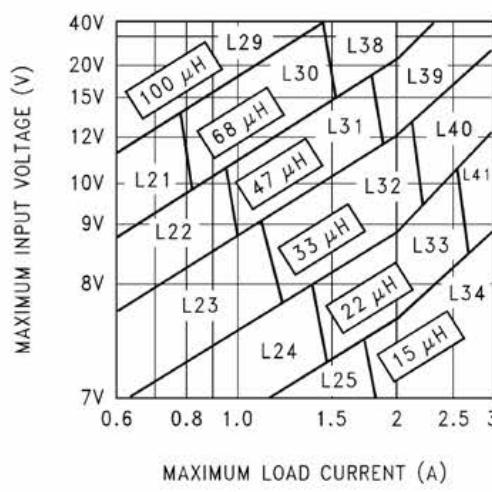
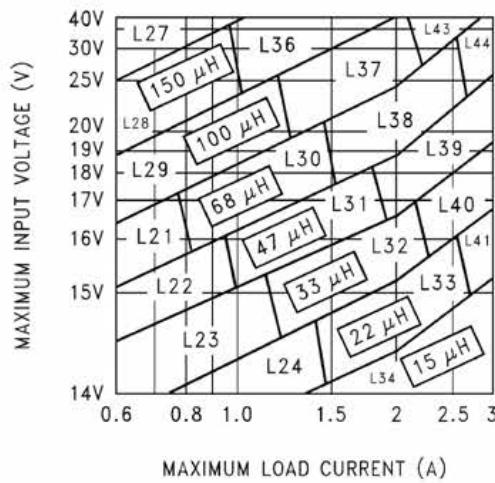

Figure 22. LM2596-5.0
Figure 23. LM2596-12
1. Inductor Selection (L1) A. Select the correct inductor value selection guide from Figures Figure 21, Figure 22, or Figure 23. (Output voltages of 3.3V, 5V, or 12V respectively.) For all other voltages, see the Design Procedure for the adjustable version. B. From the inductor value selection guide, identify the inductance region intersected by the Maximum Input Voltage line and the Maximum Load Current line. Each region is identified by an inductance value and an inductor code (LXX). C. Select an appropriate inductor from the four manufacturer's part numbers listed in Table 3.	1. Inductor Selection (L1) A. Use the inductor selection guide for the 5V version shown in Figure 22. B. From the inductor value selection guide shown in Figure 22, the inductance region intersected by the 12V horizontal line and the 3A vertical line is 33 μ H, and the inductor code is L40. C. The inductance value required is 33 μ H. From the table in Table 3, go to the L40 line and choose an inductor part number from any of the four manufacturers shown. (In most instance, both through hole and surface mount inductors are available.)